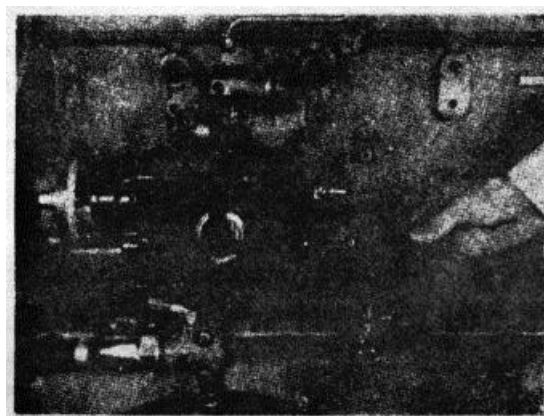

Figure 3-4. Setting idling speed
2. Remove pipe plug from spring pack cover. Fig. 3-4.